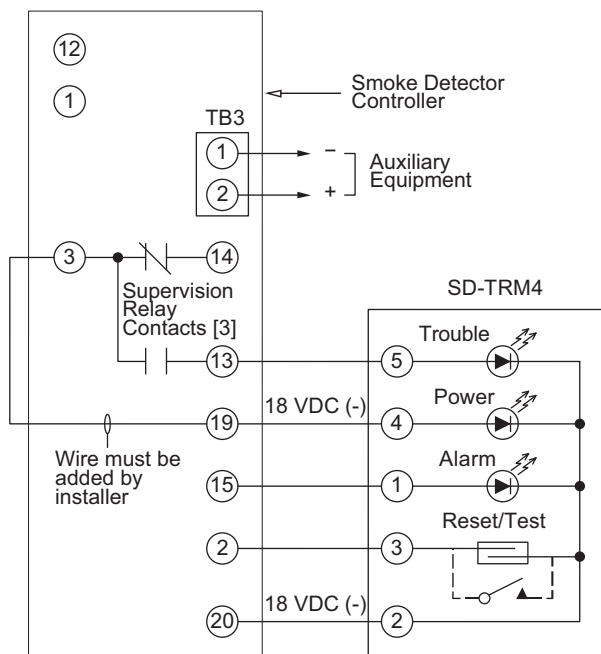

Fig. 45 — Remote Test/Reset Station Connections
The test/reset station dirty sensor test checks the test/reset station's ability to initiate a sensor dirty test and indicate the results. It must be wired to the controller as shown in Fig. 45 and configured to operate the controller's supervision relay. For more information, see "Dirty Sensor Test" on page 35.
1. Verify that the remote test/station is wired as shown in Fig. 45. Repair or replace loose or missing wiring.